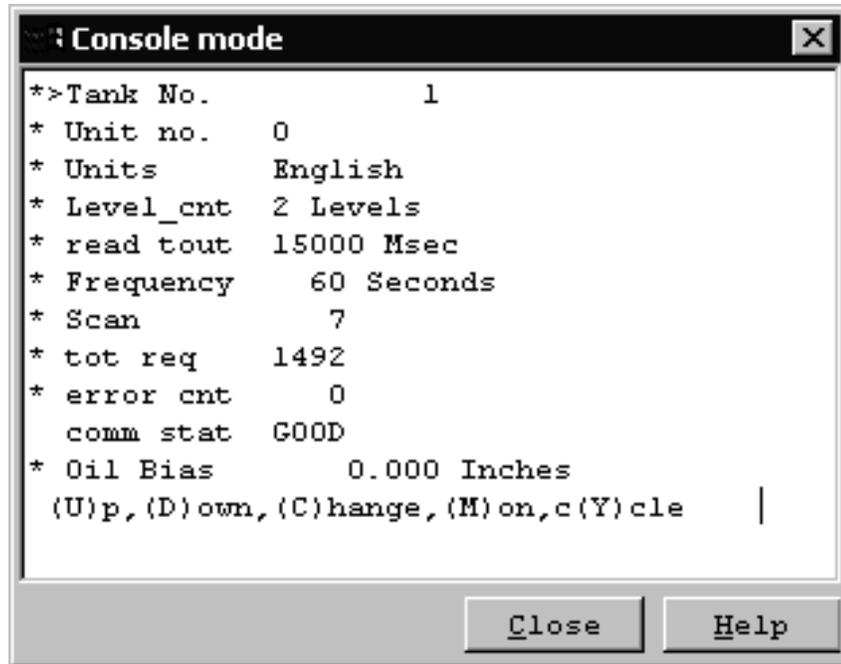

Figure 3–4 Console Mode, Tank 1 Setup
- 7) Of the items shown in Figure 3–4 Console Mode, Tank 1 Setup and listed in Table 3–4 Console Mode, Tank Setup Parameters, the primary parameters that will need to be set are: